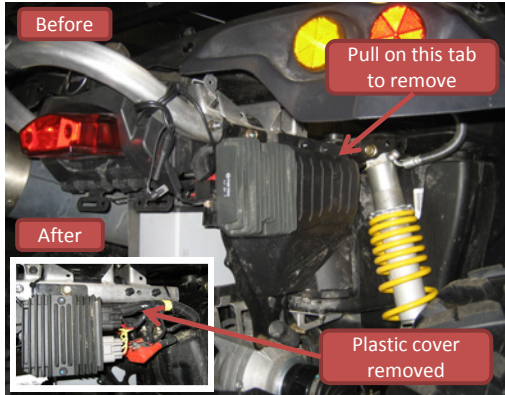

Figure 38
- Remove the black plastic cover shown in (Figure 38)